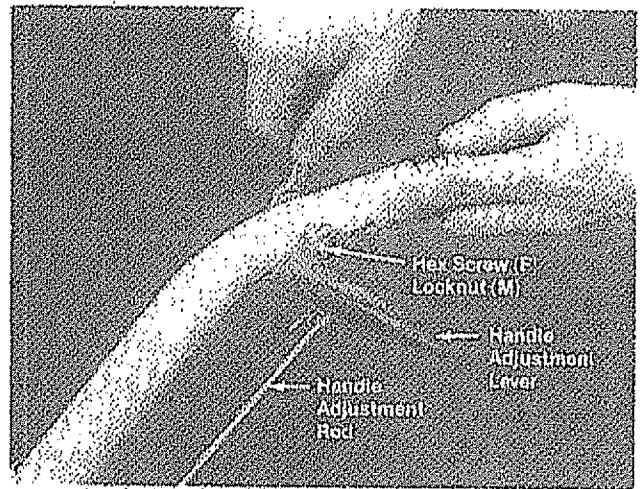

FIGURE 11.
- K. To assemble the handle adjustment lever, hook handle adjustment rod (already on handle) into lever. Hook to the outside. See figure 11.
- L. Place handle adjustment lever in place on handle and secure with hex screw (F) and locknut (M). See figure 11. Do not over tighten handle adjustment lever must pivot freely.